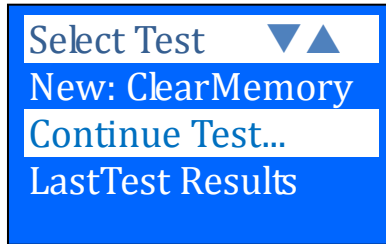

Figure 41
2. Connect the analyzer to the battery terminals and the display will light up as shown (Fig 41).